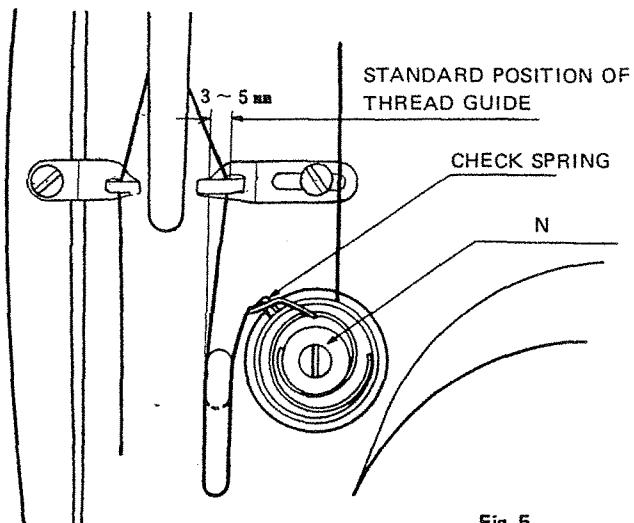

Fig. 5
3. Standard position of thread guide is shown in Fig. 5.